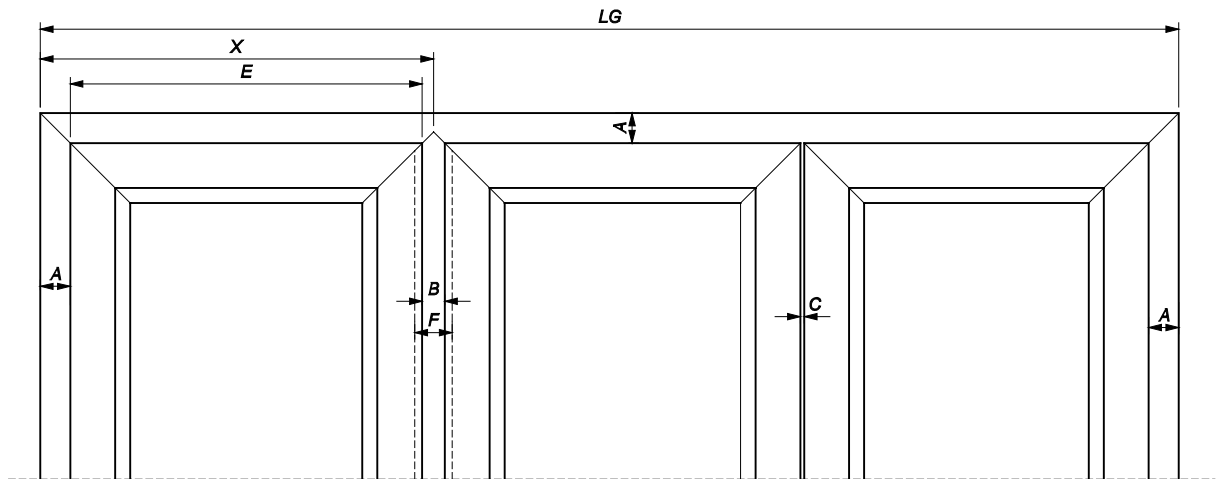

fig.12
5.2.5. HOW TO CALCULATE THE CENTRES OF THE TRANSOM/MULLION (FIG. 12)